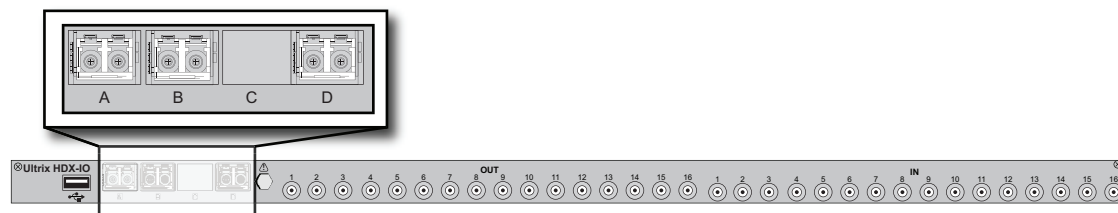

Figure 54 Ultrix Rear Panel — AUX Port Mapping for an ULTRIX-HDX-IO Blade
**Figure 54** outlines the AUX designations for an ULTRIX-HDX-IO blade.